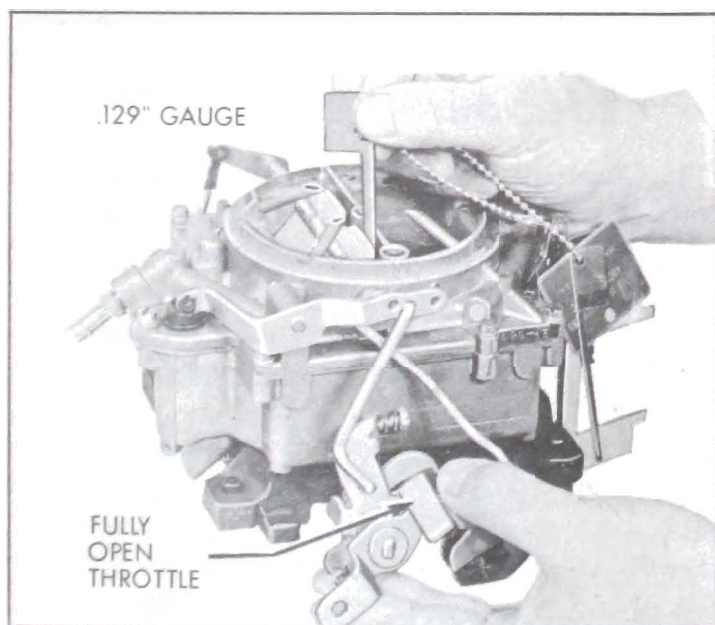

Figure 3-84—Checking Choke Unloader Adjustment
3. Fully open throttle so that throttle arm contacts unloader tang on fast idle cam, then check clearance between choke valve and air horn dividing wall using .129" Gauge (No. 30 drill). See figure 3-84.